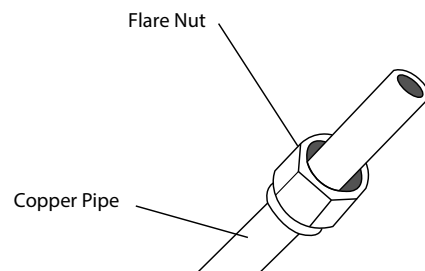

Fig. 8.3
3. Place flare nuts on both ends of pipe. Make sure they are facing the right direction, because it won't be possible to put them on or change their direction after flaring. See Fig. 8.3